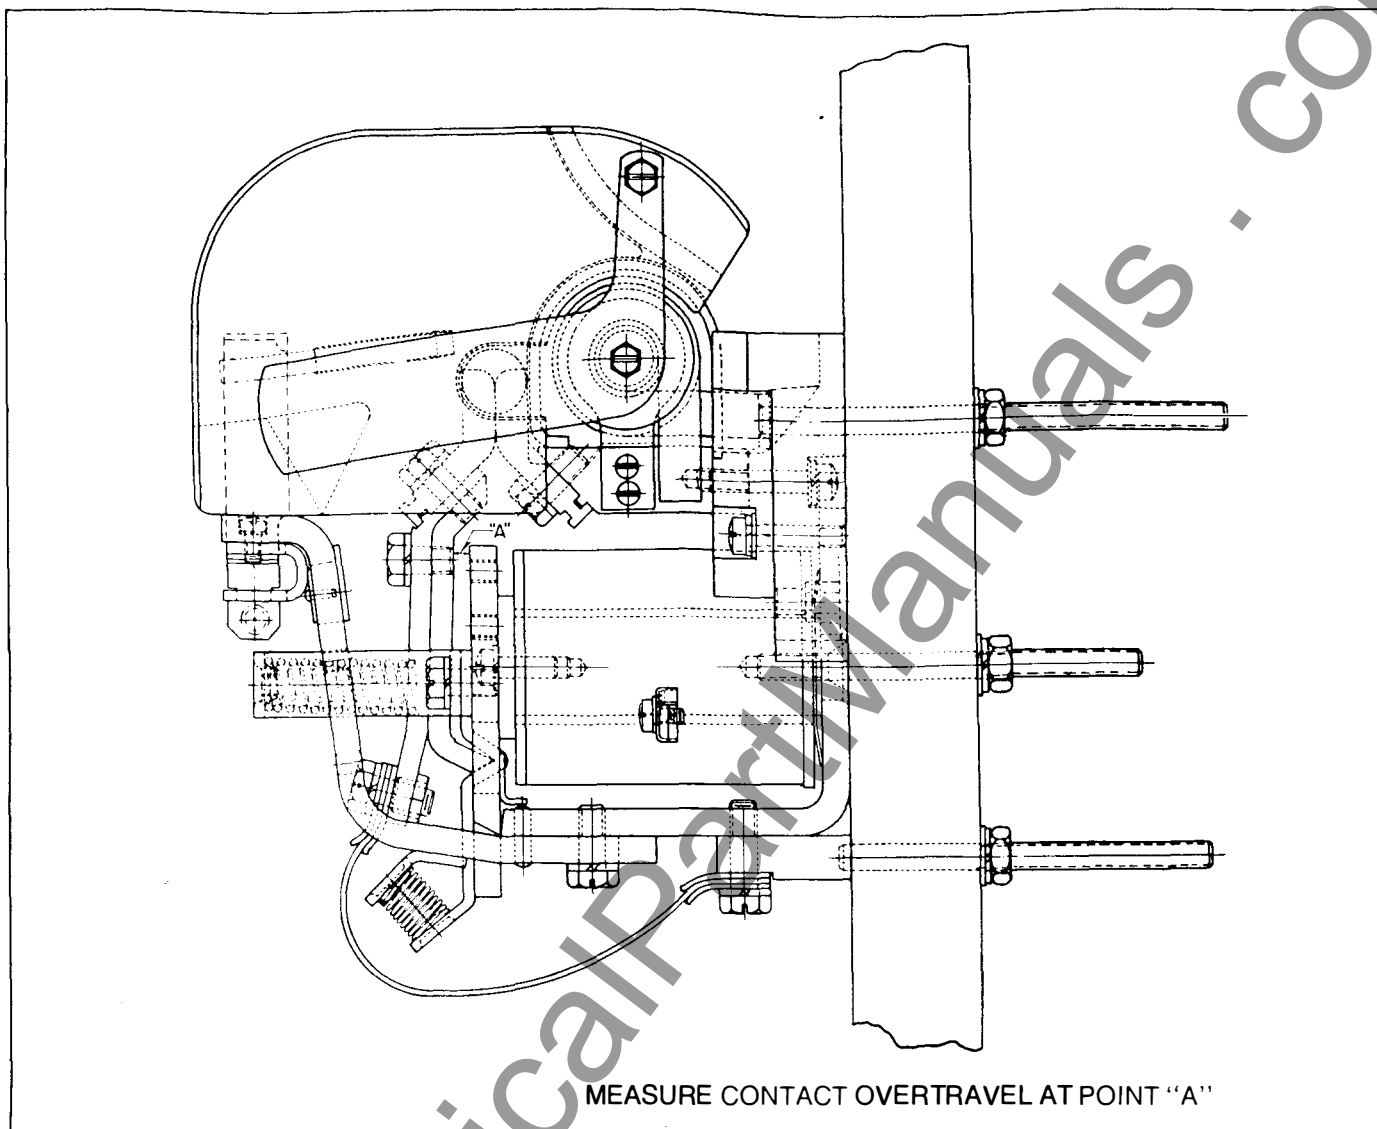

Fig. 3 Type M-810 Contactor with Armature Closed
Order replacement contact kits by the part number shown in Table IV. When contacts are new and the armature is seated either electrically or mechanically, the gap between the contact support bracket and the top of the armature plate, Dimension "A" in Figure 3, should be as shown in Table IV. Change contacts when this dimension is reduced to $\frac{1}{32}$ inch.
* Dimension "A" in Figure 3